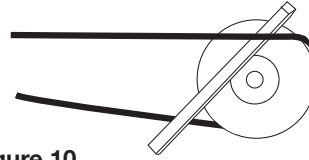

Figure 10
7. Always loosen tension enough to install belts without stretching, see Figure 10.
V-belt drive	Tighten pulleys on motor/fan shaft. Adjust belt tension. Align pulleys properly, see Figures 10 and 11, page 8. Replace worn belts or pulleys.